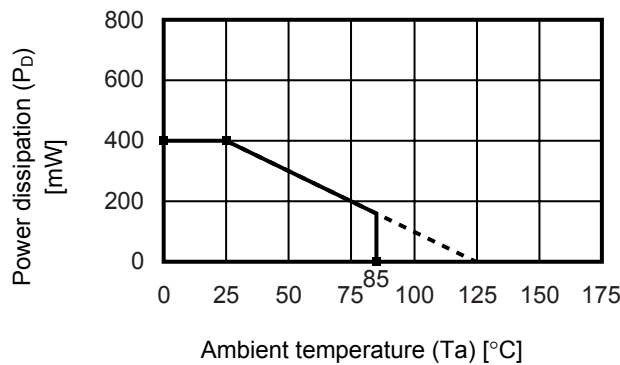

Figure 4 Power Dissipation of The Package (Mounted on board)
2. Since this IC has a built-in power MOS FET, make sure that dissipation of the power MOS FET does not exceed the allowable power dissipation of the package (Refer to Figure 4).